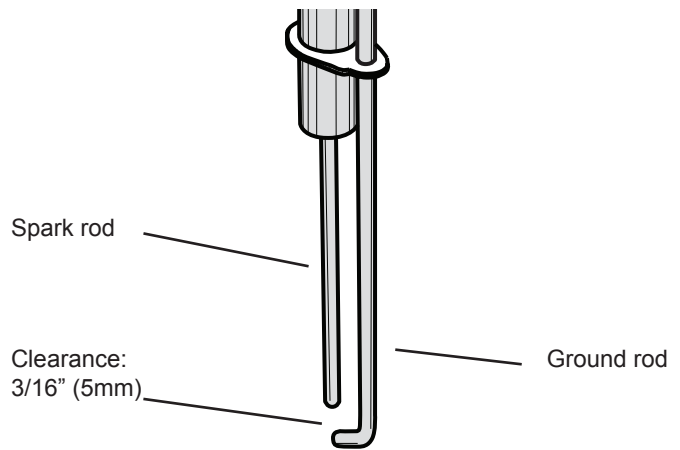

Fig. B16-1 - Correct clearance for spark rod
This boiler uses “direct spark ignition” to light the burner flame. The ignition system includes the spark rod, a ground rod, and a flame sensor. See Fig. B16-1. To light the burner, the SIT controller sends a high-voltage current to the spark rod and opens the gas valve. A spark jumps from the spark to the ground rod and lights the gas. The flame heats the flame sensor. The flame sensor generates a very small voltage (milli-Volts) to confirm that the gas is burning. If for some reason the flame sensor does not detect a flame within a very short time, the controller triggers a lockout.
To ensure easy and reliable firing, the clearance between the spark rod and the ground rod must be 3/16” (5 mm). See Fig. B16-1.
4. Carefully disconnect the large red wire running to the flame sensor. See Fig. B16-1.